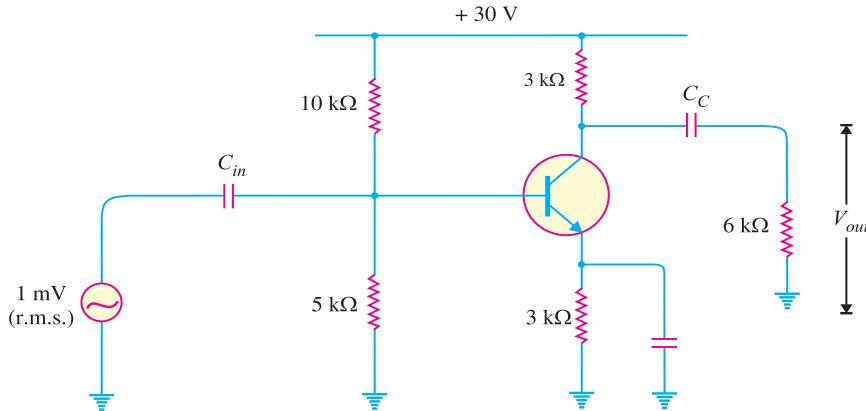

Fig. 10.21
**Example 10.11.** In Fig. 10.21, the transistor has  $\beta = 50$ . Find the output voltage if input resistance  $R_{in} = 0.5\text{ k}\Omega$ .